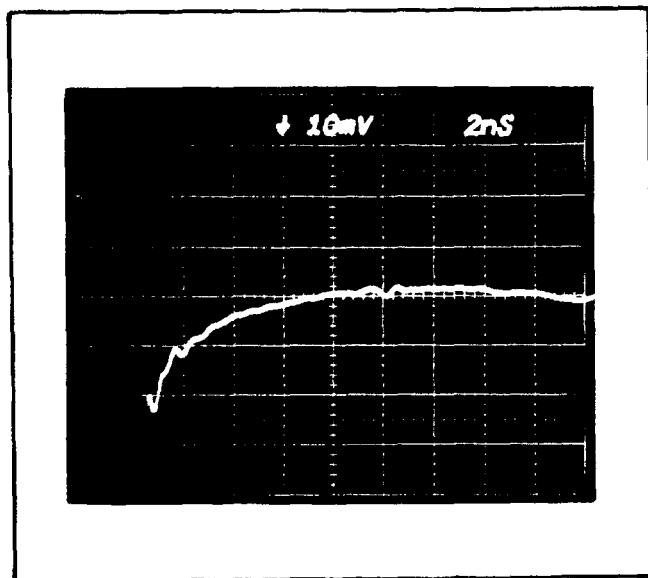

Fig. 3-3. Typical sampling oscilloscope system response curve obtained when C940 has been properly adjusted (step 11l).
l. When the proper vertical alignment has been made for the negative-going FAST RISE OUTPUT signal, adjust C940 so that the response curve is aligned with the reference graph as close as possible. A slight amount of front-corner overshoot relative to the graph is desirable. See Fig. 3-3. Do not expect to obtain the same aberration amplitudes as the reference graph. In no case should the displayed signal aberrations deviate from the reference graph by more than 1 vertical division.